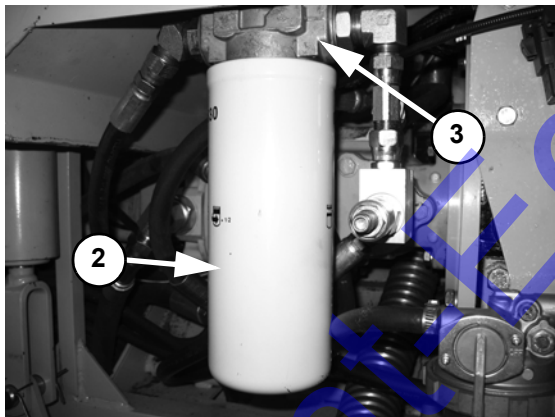

Fig. 38 - Hydraulic Filter Components
- Unscrew and remove the hydraulic filter element (2, Fig. 38) and discard.